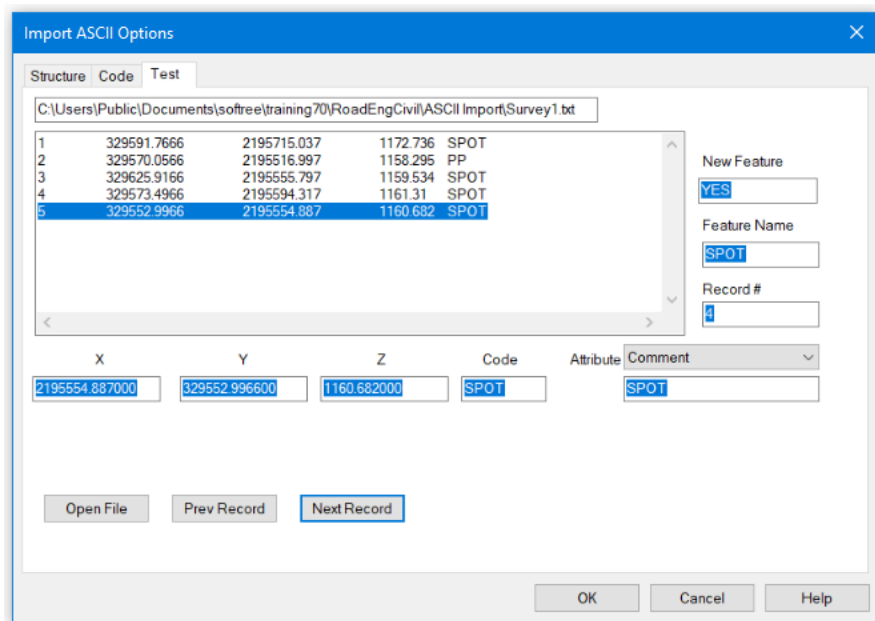

Figure 3-8: Import ASCII Options Dialogue – Test tab
16. To test the specification, go to the *Test* tab (see Figure 3-8):